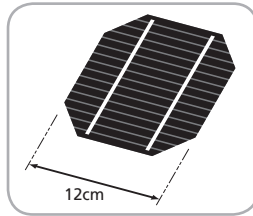

Fig. 2.3. PV / Solar Cell
The basic element of a PV System is the photovoltaic (PV) cell, also called a Solar Cell. An example of a PV / Solar Cell made of Mono-crystalline Silicon is shown in Fig. 2.3. This single PV / Solar Cell is like a square, but with its four corners missing (it is made this way!).